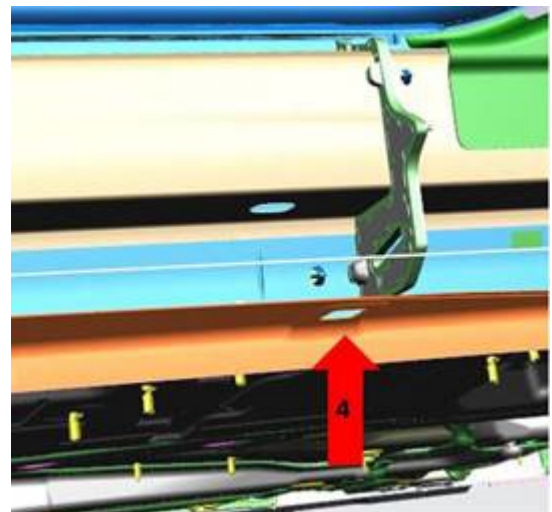

Figure 5. Hole through which the sound absorber will be accessed.
5. Figure 5 shows a closer view of the sound absorber to be modified in the cut-away image.